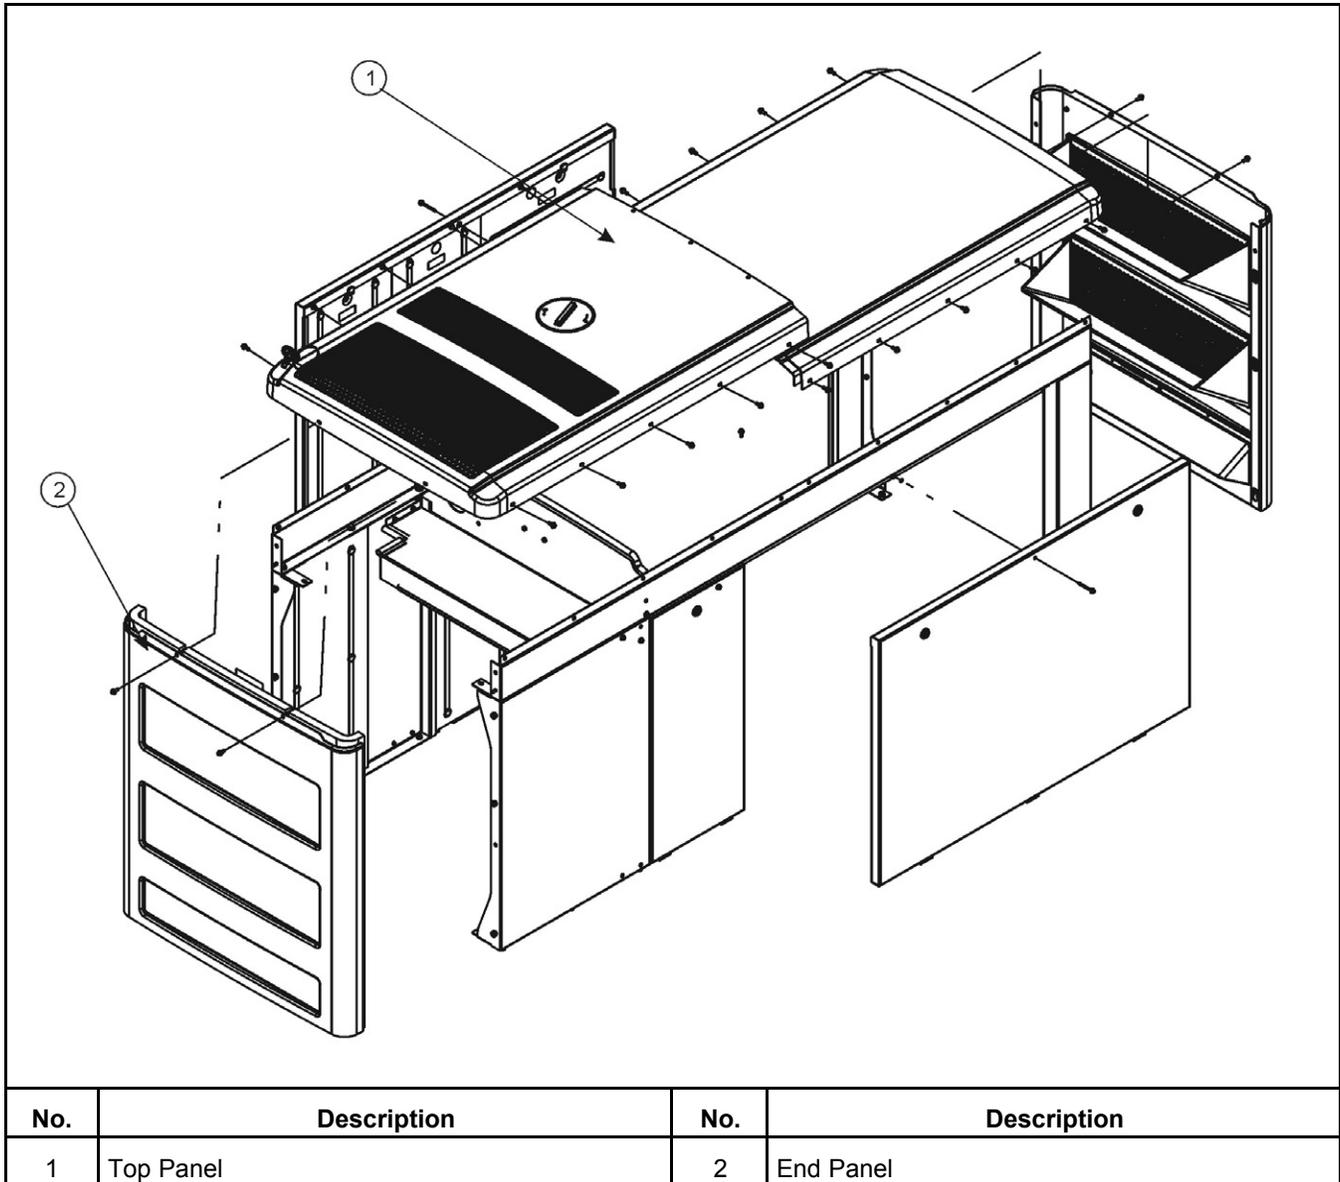

FIGURE 9. ENCLOSURE END PANEL REMOVAL
1. Place the end panel (2) on each side panel locating pin. Refer to Figure 9.
2. Slide the end panel (2) down to latch the panel onto the locating pins.
3. Attach the top panel (1) with bolts on three sides and the top.